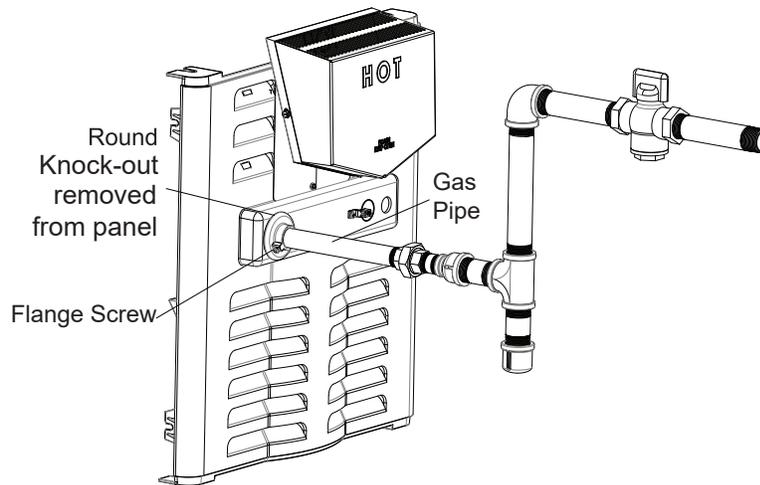

Figure 9. Flange installed on the gas pipe. Be sure the flange covers the circular opening in the heater panel.
2. When installing the $\frac{3}{4}$ " pipe into the gas valve, place the gas pipe escutcheon over the pipe so that the larger circle is facing the heater's service panel and the smaller circle with the screw is facing away for the heater service panel (toward the union) as shown in Figure 9.